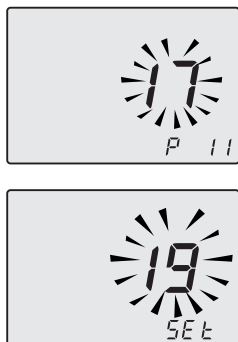

Fig. 7.27
- The writing **P11 - Set** alternates on the display (Fig. 7.27).